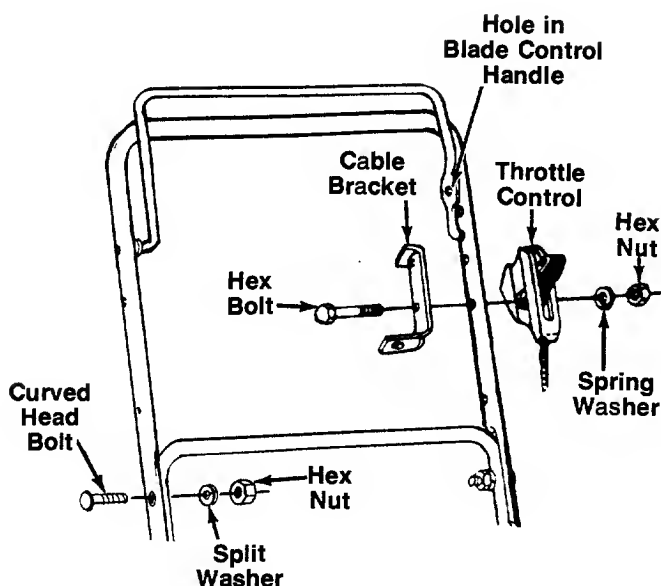

FIGURE 2.
2. Secure the upper handle to lower handle using the curved head bolts, split washers and hex nuts as shown in figure 2.
Attach the throttle control to the left side of upper handle as follows. See figure 2.